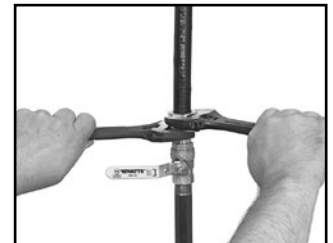

Fig. 4-22
STEP 7 WRENCH FITTING (FIG. 4-22)